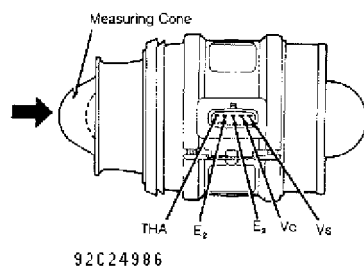

Fig. 20: Airflow Meter Terminal ID (MX-3 DOHC, MX-6 2.5L, 626 2.5L & 929)
(1) - See Fig. 20 for terminal identification.